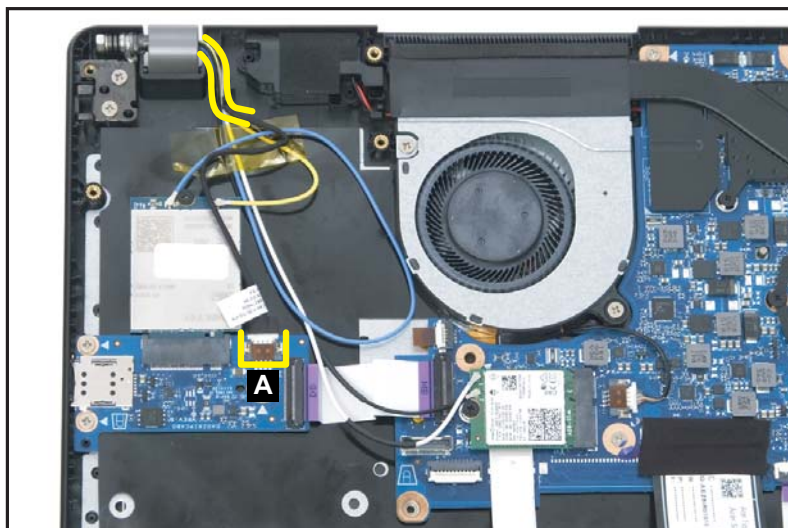

Figure 1-39. USB Board Removal
1. Disconnect the USB board FFC (A) from the mainboard and USB board connectors (Figure 1-39).
2. Remove one (1) screw securing the USB board in place (Figure 1-39).